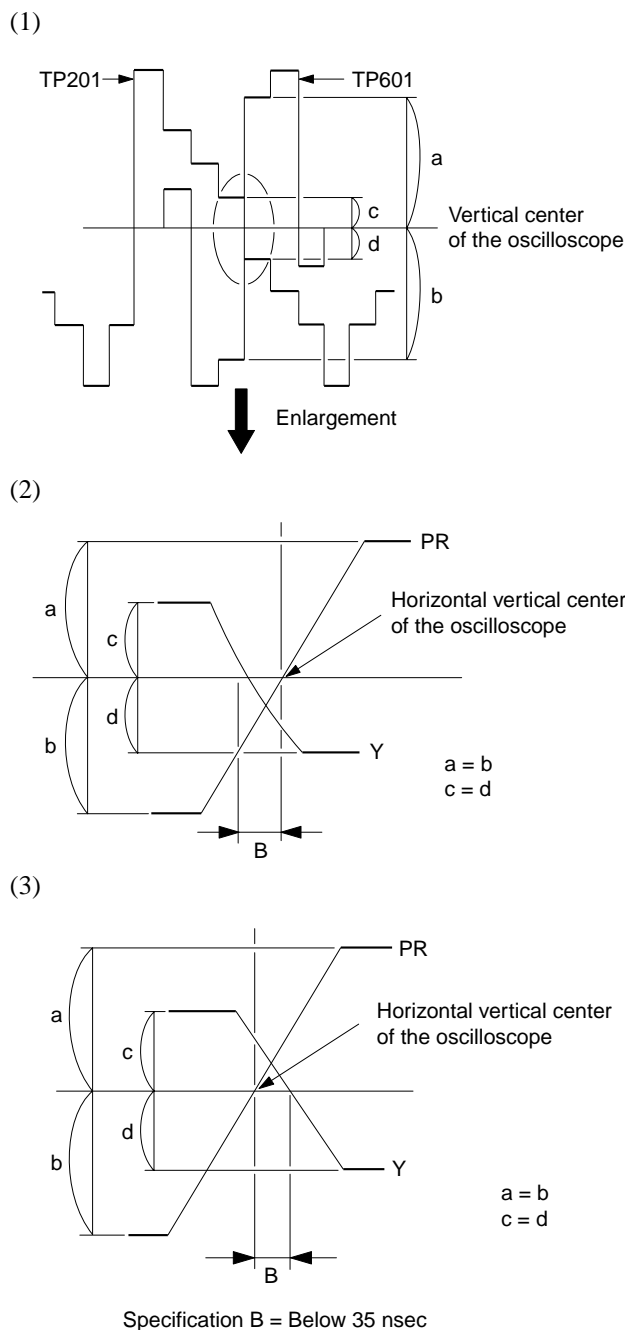

Fig. 2-9.
9. Adjust the position of the oscilloscope and coincide the TP201 and TP 601 waveform as shown in Fig. 2-9 (1).
10. Set the oscilloscope to the delay mode and enlarge the border between the green and magenta as shown in Fig. 2-9 (2) and (3).
(If deviated to the left as shown in Fig. 2-9 (2).)
(If deviated to the right as shown in Fig. 2-9 (3).)